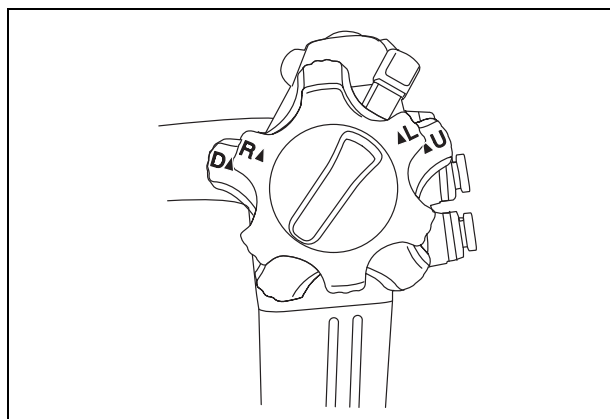

Figure 3.4
3. When the UP/DOWN and RIGHT/LEFT angulation control knobs are turned to their respective neutral positions as shown in Figure 3.4, confirm that the bending section returns smoothly to an approximately straight condition.